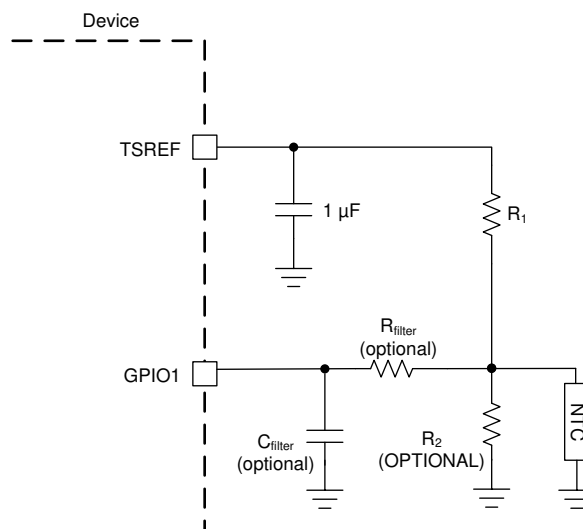

Figure 9-6. Thermistor Connection
Figure 9-6 shows the thermistor circuit when GPIO is enabled for thermistor measurements. MCU ensures TSREF is enabled by setting $CONTROL2[TSREF\_EN] = 1$ and settled before taking the measurement value.
- $R1$ is the pull-up resistor as shown in Figure 9-6 with the assumption the $R2$ is not used